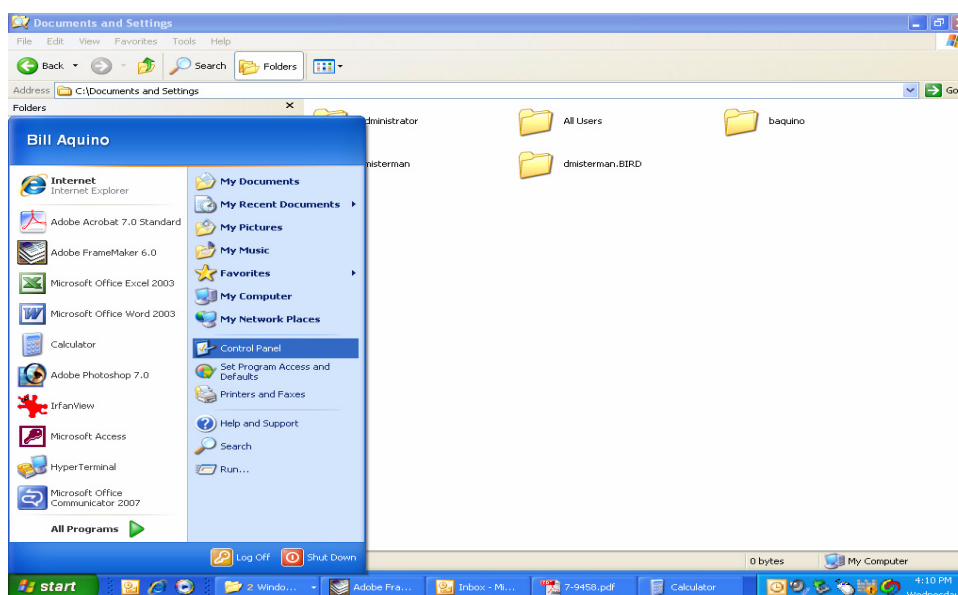

Figure B1: Choose the “Control panel” icon.
- 2) Single click the “Control Panel” choice from the “Start” pop-up menu as shown in **Figure B1**.